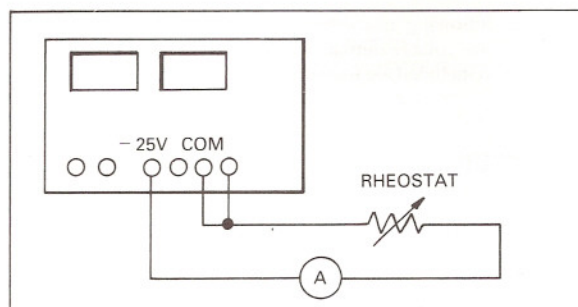

Figure 7-2.
- Connect a known calibrated ammeter and a 12.5W (25W for the LPS-152) rheostat as shown in Figure 7-2.